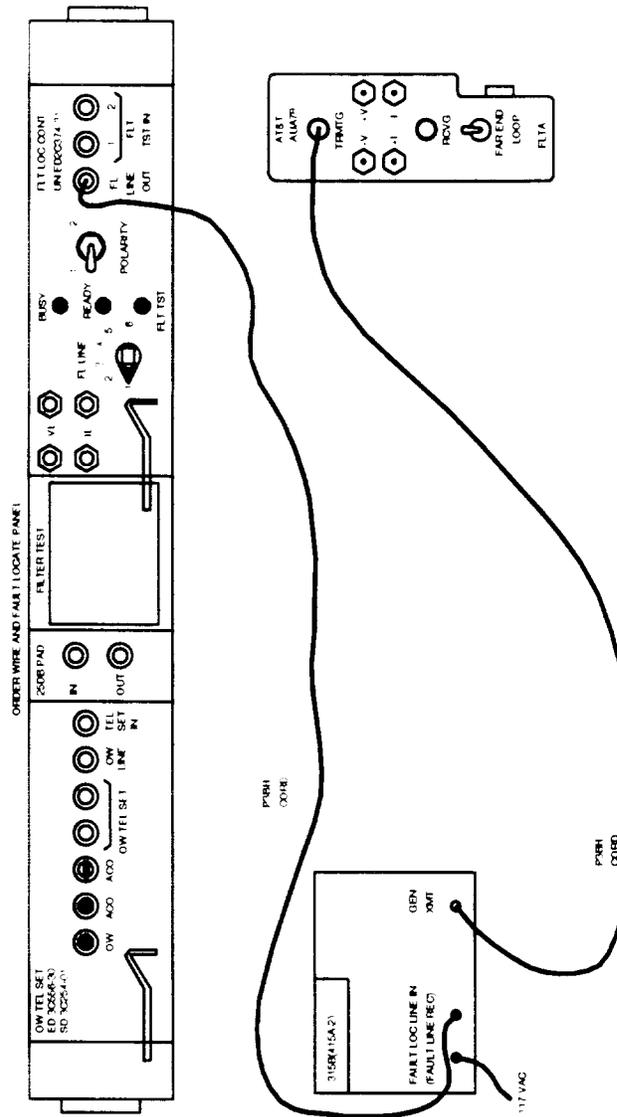

Figure 1 — COT Fault-Locating Configuration Using 315B or 415A-2 Test Set
1. Ensure that central office terminal (COT) fault locate (FL) panel **FL LINE** switch is set to correct number (**1, 2, 3, 4, 5, or 6**) to access FL line being tested (Figure 1).